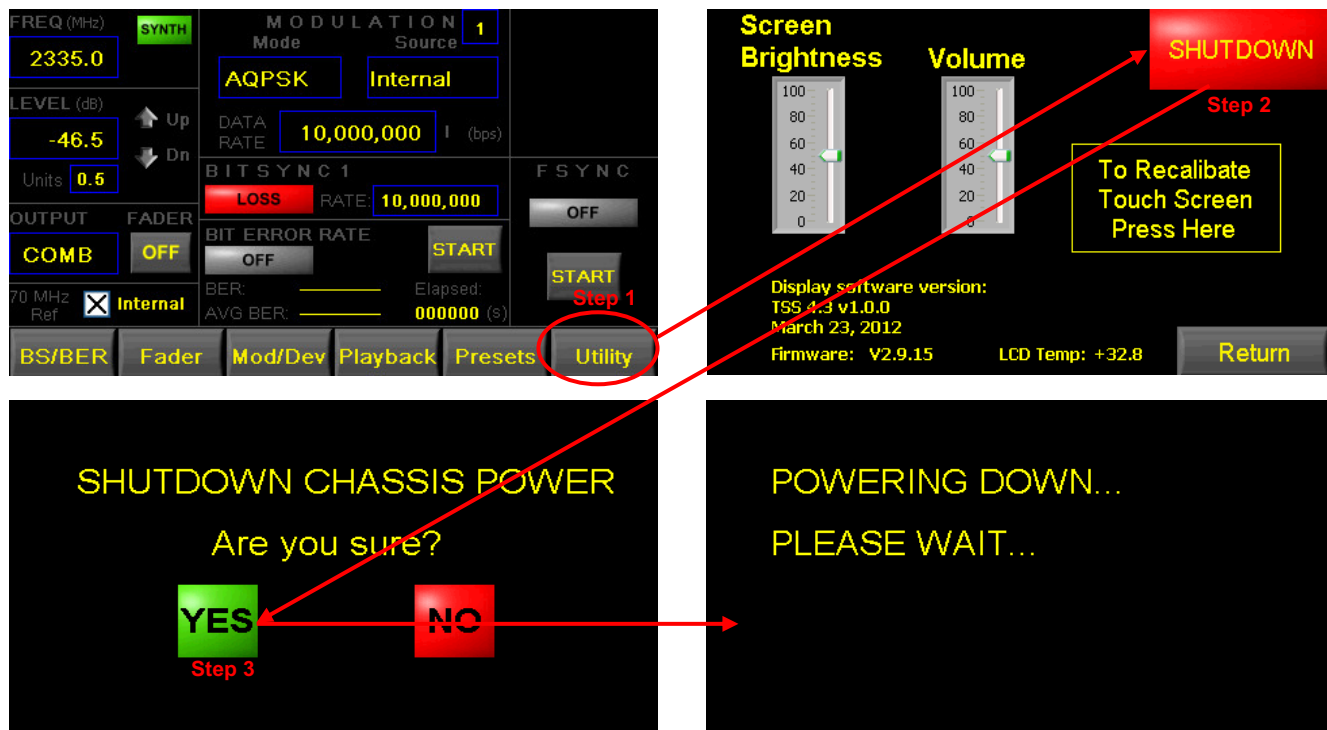

Figure 2-6
B. Shutdown Sequence using the TSS200B touch screen (Figure 2-6)
- C. Physical shut down by a **SINGLE ONE (1) SECOND PRESS** of the **RED** Power button on the TSS200B front panel.